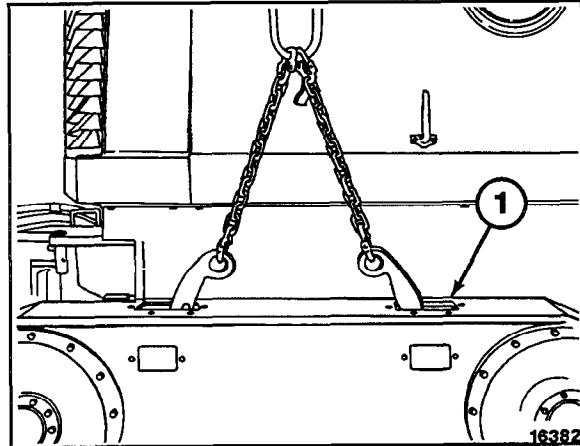

Figure 32
15. Position two jacks under tandem case (1, Figure 32) so it will remain level.
16. Using a 2 ton (1,814 kg) lifting device, sling tandem case (1, Figure 32) as shown.
17. Remove twenty-four bolts and washers that secure tandem case (1, Figure 32) to final drive.